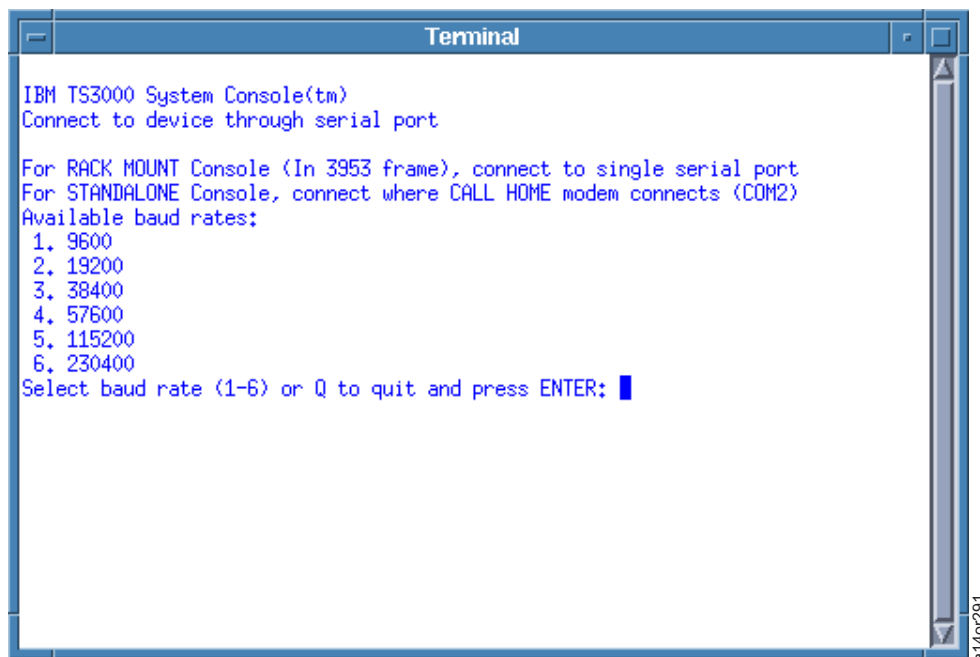

Figure 2-111. Baud Rate Screen - From System Console
2. Select **Serial Port**. You see Figure 2-111. Type the number of the port speed (baud rate) for the device to which you will be connecting. The message 'Connected' appears. Press **Enter**.